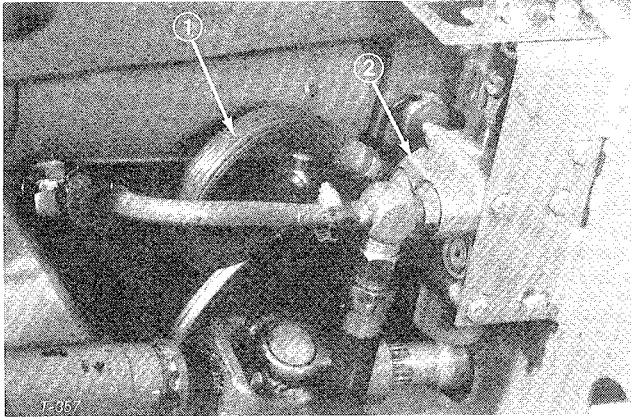

Figure 64
5. Disconnect cylinder hose from 90° fitting on lift valve (Fig. 64). Keep end of hose higher than cylinder to prevent oil from draining out the hose. Plug end of the hose.